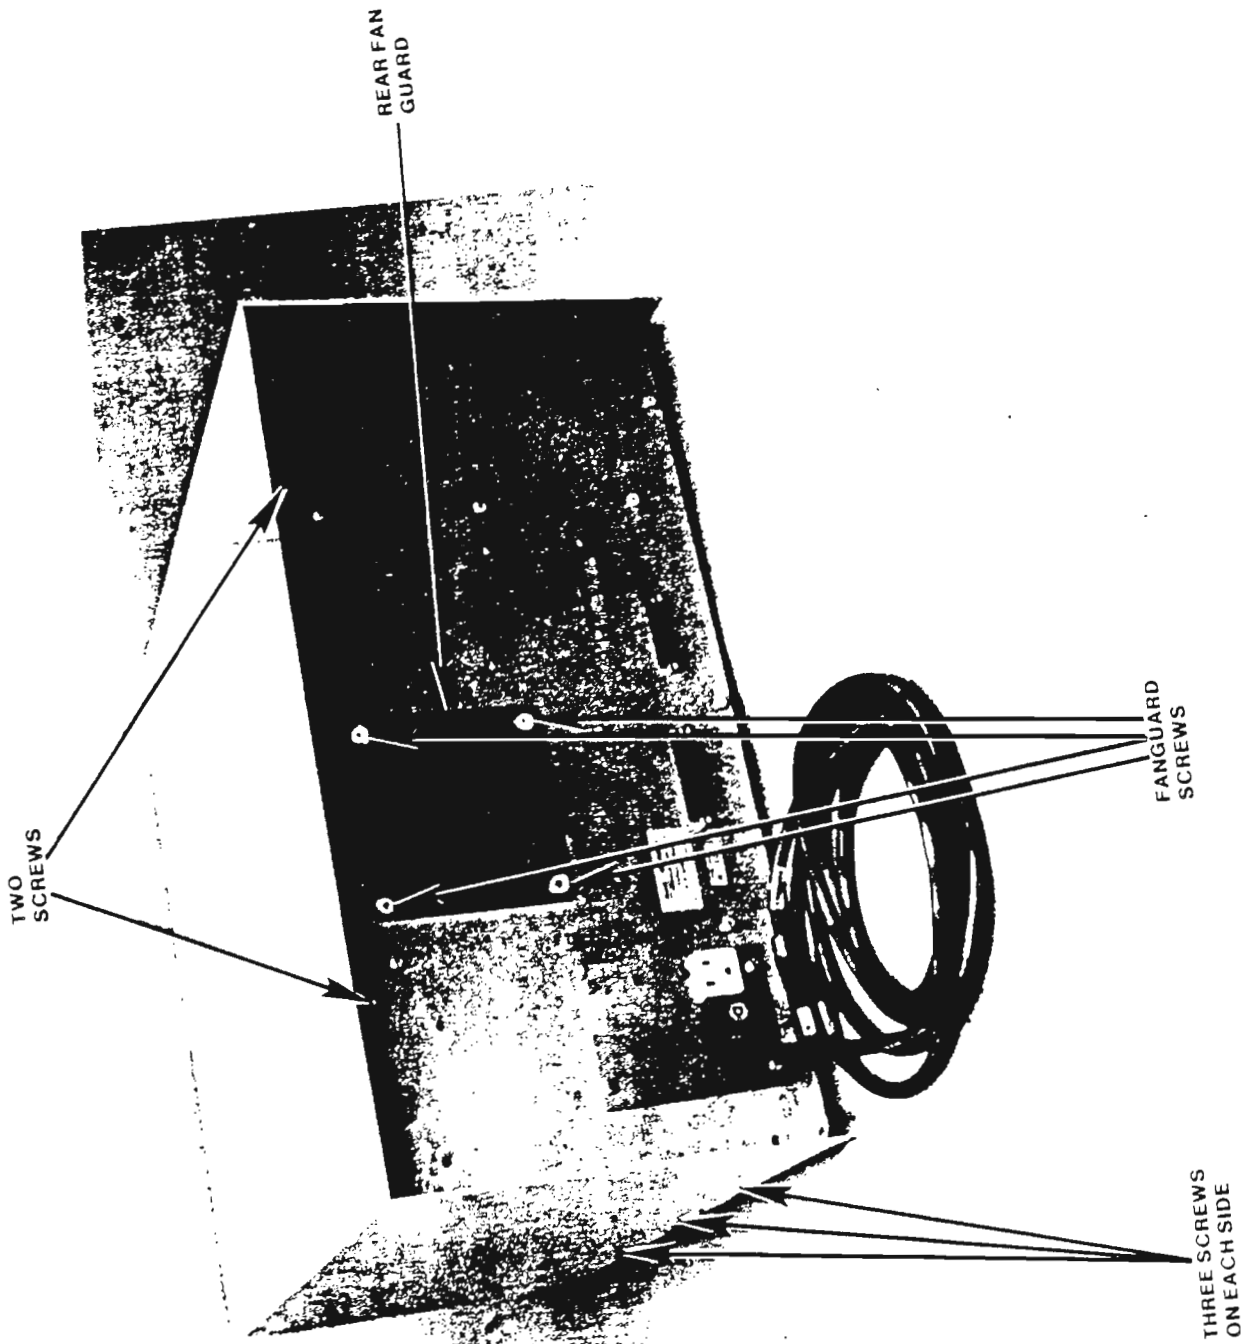

FIGURE 1 SVP CHASSIS/REAR VIEW
- B. Refer to Figure 1. Using a Phillips screw driver, remove the six screws securing the sides of the cover (three on each side of the unit) and the two screws securing the cover at the rear of the chassis. Slide the cover toward the front of the unit and then lift the cover off.
- D. Refer to Figure 1. Remove the muffin fan from the unit. To do this, take out the four screws, (650-3240) and lock nuts (652-0032) of the rear fan guard. Save the four screws and lock nuts to secure the new fan guard to the chassis in Step G below.